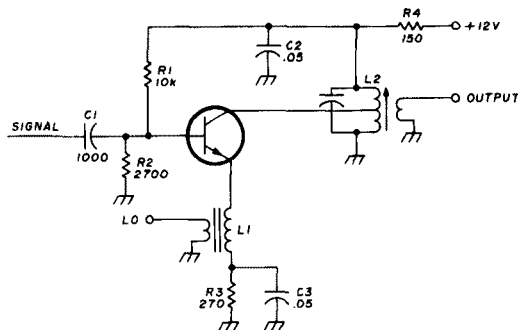

fig. 10. Rf mixer circuit using a bipolar transistor. There are many hidden resistance paths in this circuit which can be confusing if you're not aware of them.
2. **Transistor leakage** can cause the same sort of measuring problems as diodes because both the base-collector and base-emitter junctions are, in essence, diodes so a transistor junction that is forward biased by the ohmmeter battery looks like a low-resistance path. Consider the circuit of fig. 10 where an npn transistor is used in a typical rf mixer circuit. Suppose you connect your ohmmeter across resistor R2 to measure it. Instead of the expected 2700 ohms the meter reads about 50 ohms and you figure R2 has changed value. If you reverse the meter leads, however, you measure about 2100 ohms.